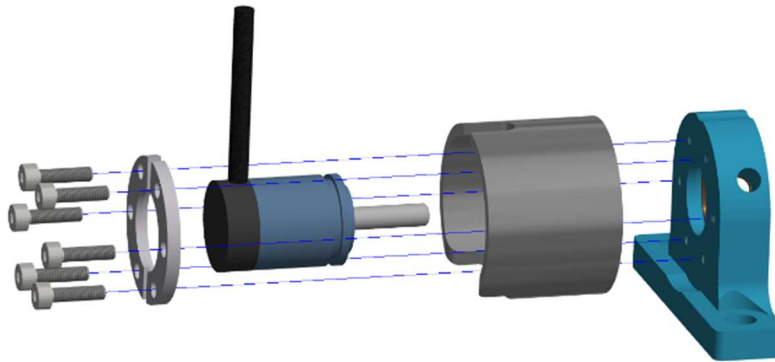

Figure 10-28. Remove the Potentiometer Clamp (474-7581)
- 10.2.24 Remove the Potentiometer Clamp (474-7581), the X-Potentiometer, and the Potentiometer Cap (483-5825) from an Ankle Bushing Plate (474-5826) by removing six M2 X 0.4 X 8 LG. SHCS (Figure 10-28).